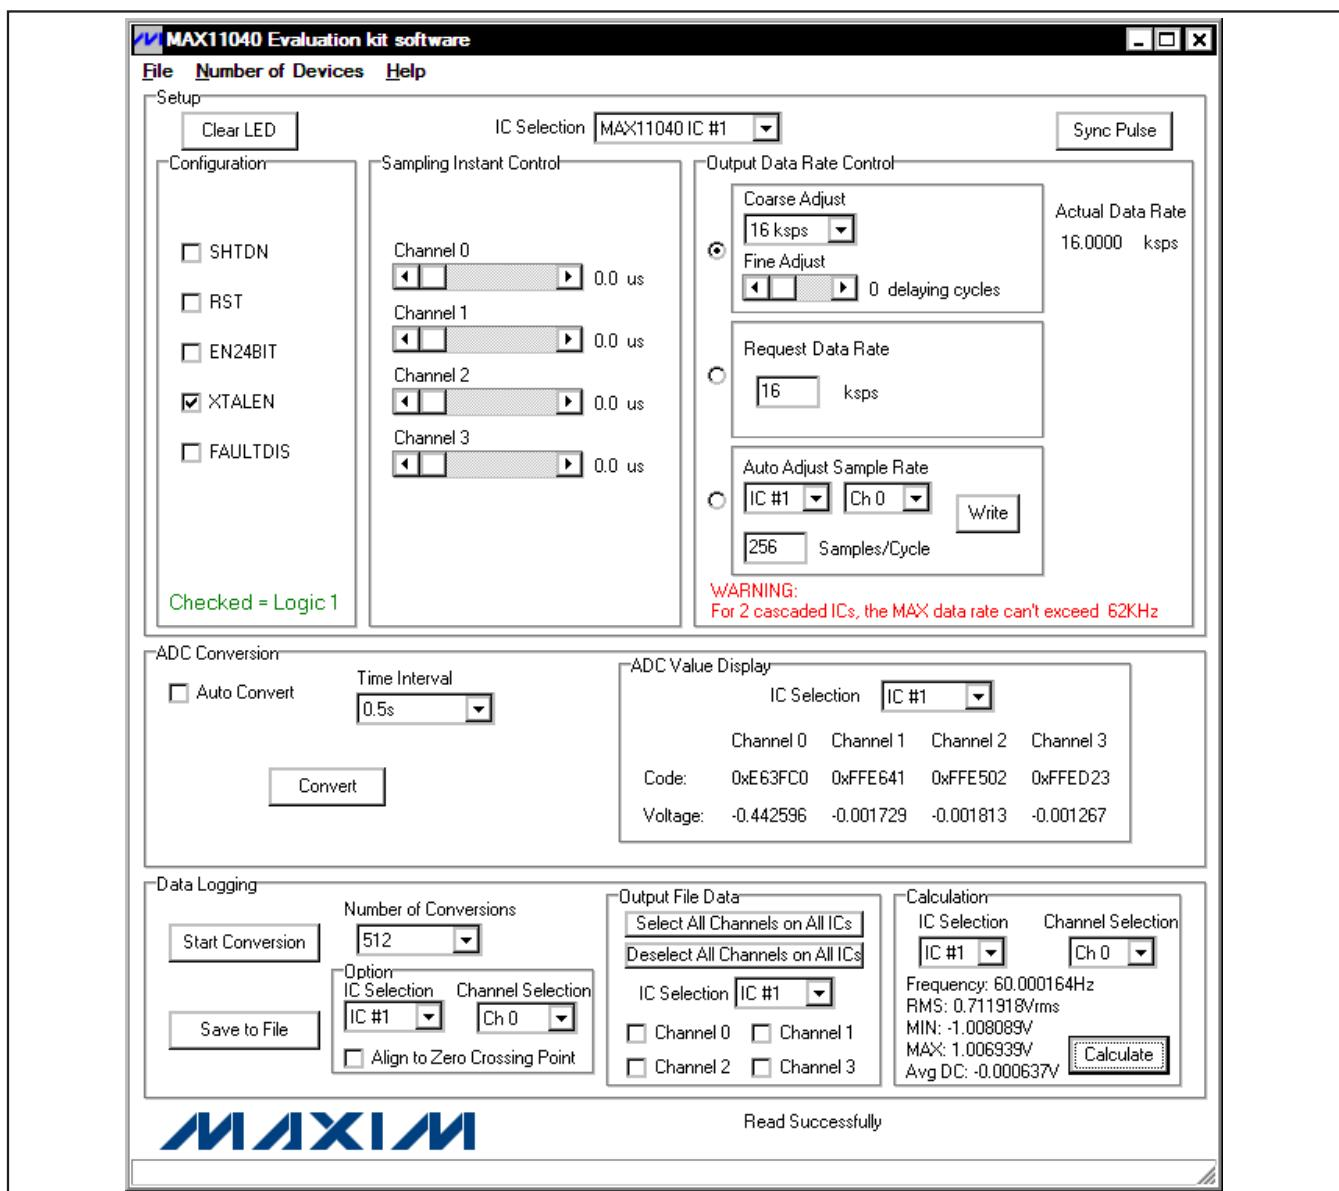

Figure 1. MAX11040 Evaluation Kit Main Window
- 12) Wait until the program automatically detects the MAX11040 hardware and displays the user-interface panel (Figure 1).
The MAX11040 EV kit's main window is shown in Figure 1. The **Setup** group box, located at the top of the window, contains **Configuration**, **Sampling Instant Control**, and **Output Data Rate Control** group boxes. Functions related to reading single-sample ADC values in the **ADC Conversion** group box are located in the middle section. Data-logging functions and data calculation are in the **Data Logging** group box, located at the bottom of the main window.
There are four LED indicators (D1–D4) on the daughterboard. D1 and D2 LEDs reflect the real-time logic levels on the FAULT and the OVRFLW pins, respectively. D3 and D4 LEDs latch on the fault conditions on the FAULT and the OVRFLW pins, respectively. When D3 or D4 is turned on, press the **Clear LED** button in the EV kit software (Figure 1) or press the on-board pushbutton (S2) to turn off the LEDs after the faults are cleared. All IC FAULT and OVRFLW pins are open drain and respectively connected in a wired-ORed configuration.